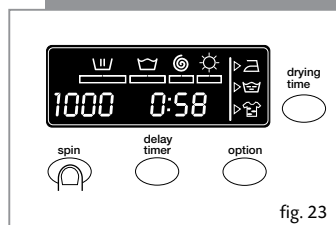

fig. 23
- The spin speed will gradually reduce each time the spin button is pressed at 100 r.p.m. intervals to a minimum of 400 r.p.m (Figure 23).